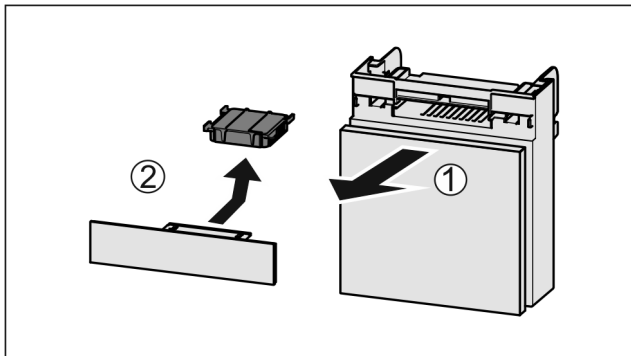

Fig. 233
- ▶ Pull out the compartment Fig. 233 (1).
- ▶ Remove the carbon filter Fig. 233 (2).